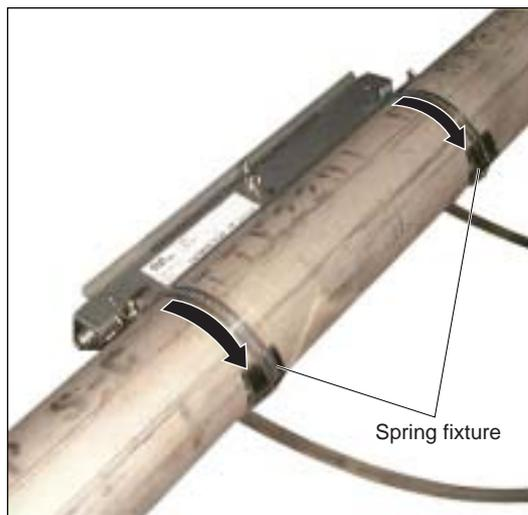

Fig. 3-8
(7) After tightening both stainless steel belts, slide the spring fixture to the opposite to the frame as shown in Fig. 3-8.